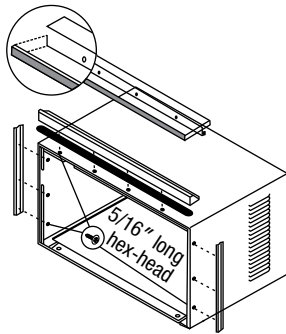

FIG. 8
2. Install top angle and side retainers to cabinet as shown in Fig. 8. (10 screws)